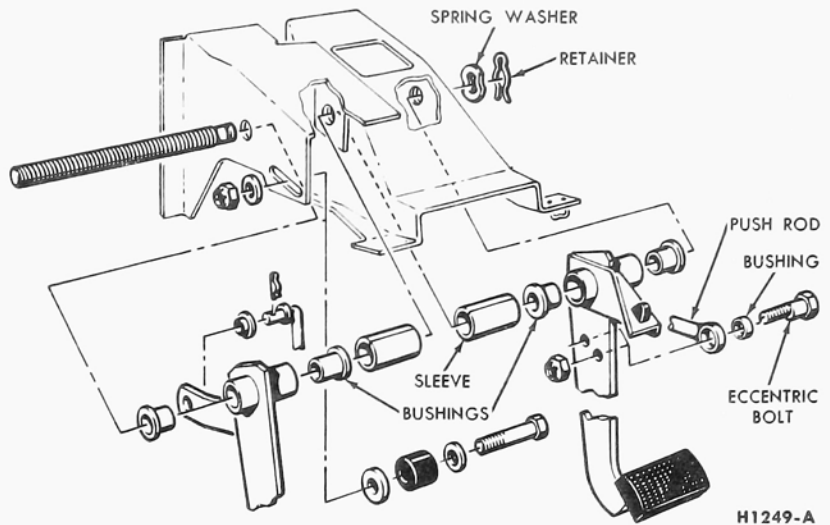

FIG. 10—F-100-250 Series Brake Pedal and Related Parts—Typical of P-100
2. Remove the brake master cylinder push rod eccentric bolt nut, and remove the bolt and nylon bushing (Fig. 10).